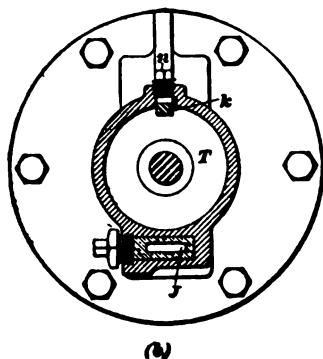

Fig. 36.
From the sectional view given in Fig. 36 (a), it will be seen that the intercepting valve consists of three parts, marked *f*, *g*, and *h*. The end *i* of part *f* is carefully finished, also a hole *j* is cut in the top of *f*, and the parts *f* and *g* are connected by a rib *k*  $\frac{1}{4}$  inch thick. The second part is cylindrical also, and forms a chamber *g* into which the ports marked *a* open. Two ribs, at right angles to each other, divide chamber *g* into four compartments, and each compartment is provided with a port, the ribs being broken away in the figure to show
**78. Reducing Valve.**—The reducing valve *O*, Fig. 36, is free to move back and forth a distance of about  $\frac{1}{4}$  inch between pistons *3* and *4*. The valve is bored out to a neat fit for the piston *3*, which forms a dashpot that prevents slamming, while piston *4* acts as a guide for the valve. Two packing rings are provided to prevent the leakage of steam back of the valve, while the outlet *p* permits any steam that may leak by to escape to chamber *Q* and thence to the atmosphere through the drip pipe *q*. Atmospheric pressure, therefore, is always maintained back of the reducing valve. Steam pressure in chamber *g* acts on the entire face of the valve *O* (*4* being only an easy fit in *O*), while the area exposed to the steam in chamber *h* is less than half as much; hence, when the pressure in chamber *g* is something less than half the pressure in chamber *h*, it will close the reducing valve. In other words, when the pressure in chamber *g* exceeds a certain percentage of that in chamber *h*, it will close the reducing valve; whereas, when it falls below that amount, the pressure in chamber *h* will open the reducing valve.